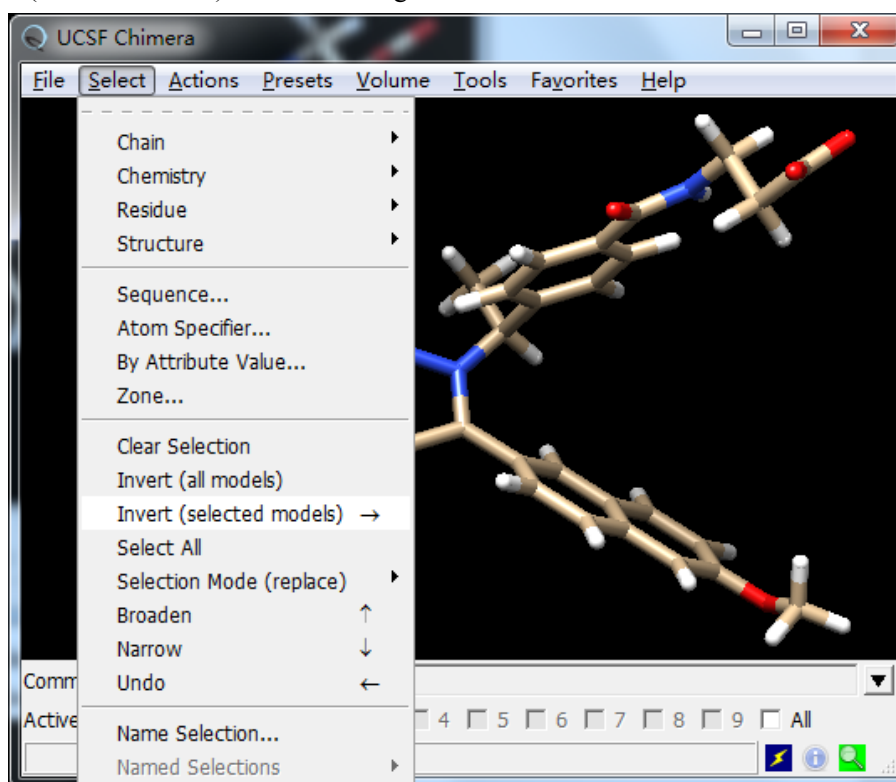

Figure 23. Invert selecting the initial growth part.
2. Invert (selected models) as shown in Figure 23: